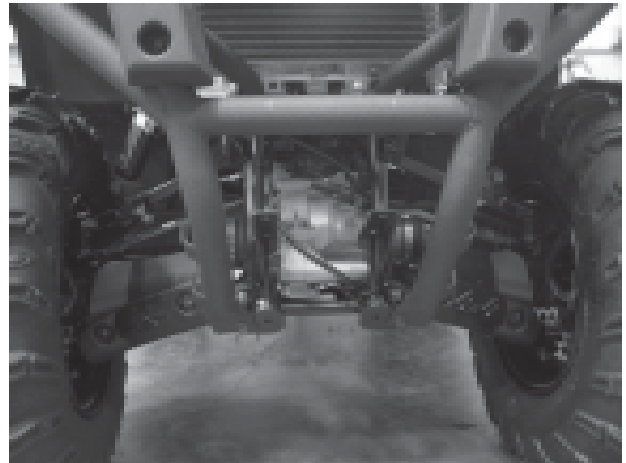

Figure 2: Retirez la plaque de protection
2. Retirez la plaque de protection avant. Voir figure 2.